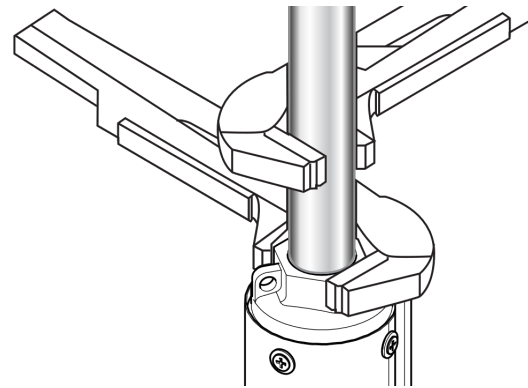

Fig. 4 Gripping the pump
- The pump should only be gripped by the two flats at the top of the pump, see fig. 4.